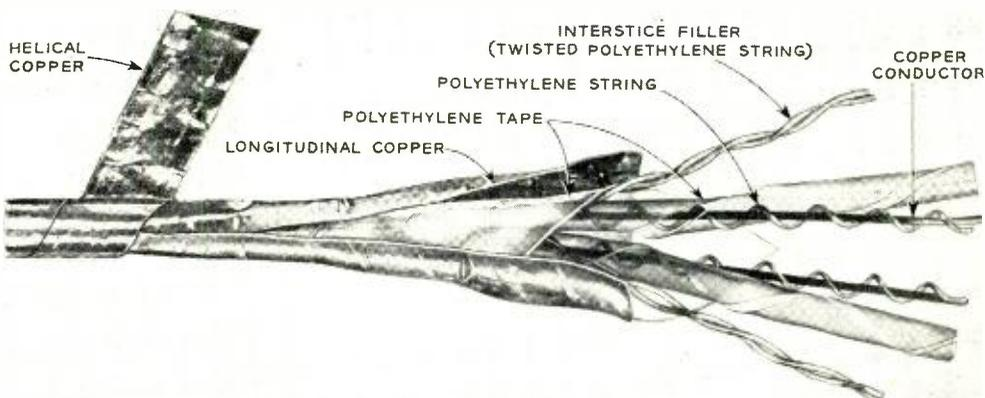
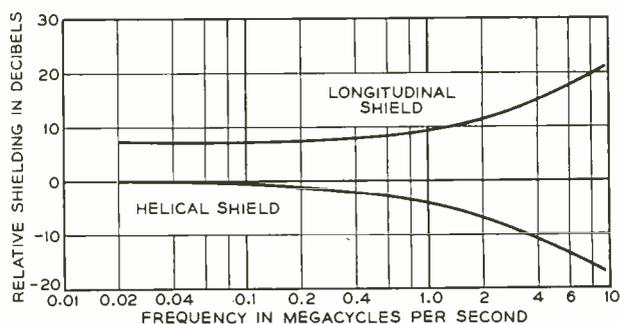

Fig. 1—Construction details of the various elements, including the longitudinal inner copper shield now incorporated in the standard video pair.
Fig. 2—Improvement in the relative longitudinal shielding gained by using the longitudinal inner shield in the video pair.
The construction of this new type of video pair is shown in Figure 1. The resulting improvement in longitudinal shielding has been outstanding. Figure 2 shows the relative longitudinal shielding for the double helical copper shield and for the shield that has the longitudinal inner copper tape.
folded form rather than on reels or spools so that there will always be a continuous supply available to the perforators. This is done by storing the folded paper in two bins placed one above the other, each containing 3,000 feet of tape. By splicing the bottom end of the tape in the top bin to the top end of the tape in the bottom bin, there is available to each perforator a total of 6,000 feet of tape. When the supply in the top bin is exhausted and while there is still paper in the bottom bin, the latter is moved to the top position, and a fresh carton of paper is added in the second bin. This bin is then placed in the lower position and the two lengths of paper spliced together. The output from the perforators is stored on reels that are rotated automatically by motors as slack develops with the operation of the perforators. Figure 2 shows a central office cabinet enclosing two perforators in the upper portion behind a clear plastic cover. Below the perforators on either side of the cabinet are the paper input bins, and between them are the motor-driven reels for storing the output tape from the perforators.
*Fig. 2—A perforator cabinet houses two perforators and their tape supplies. Below the perforators on either side are the paper input bins, and between them are the motor-driven reels for storing the output tape from the perforators.*